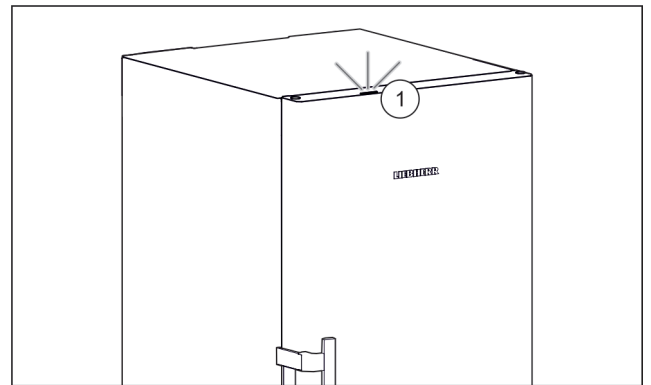

Fig. 4
When you start up the appliance, the status light Fig. 4 (1) is deactivated by default.